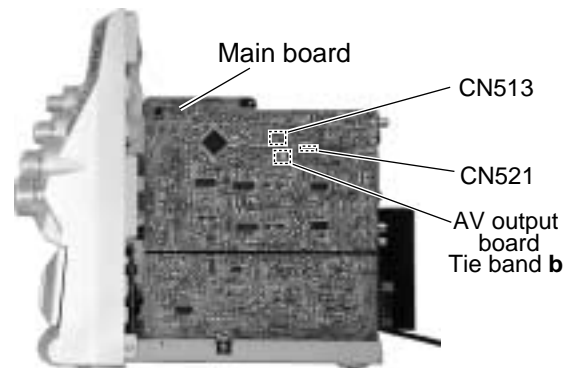

Fig.18
■ Removing the amplifier board (1, 2), AV output board & speaker terminal board (See Fig.18 to 21)
4. Disconnect the card wire from the connector CN703 on the amplifier board (2).